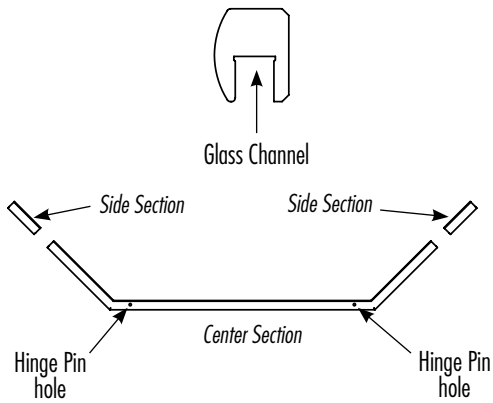

figure 33
5. Locate the header pieces and lay them out in the correct orientation on the floor. Depending on the size of the shower there will be either 2 or 3 pieces. If your shower is not a square than one piece will be longer than the other. Place the long piece on the longer side and the short piece on the short side. The glass channels should be facing down (fig. 33).